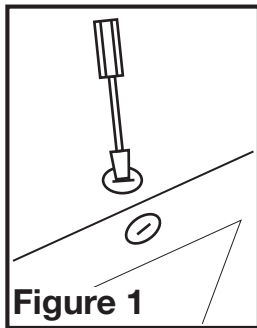

Figure 1
- Select the most convenient electrical knockout and remove using a straight-blade screw driver (Figure 1).